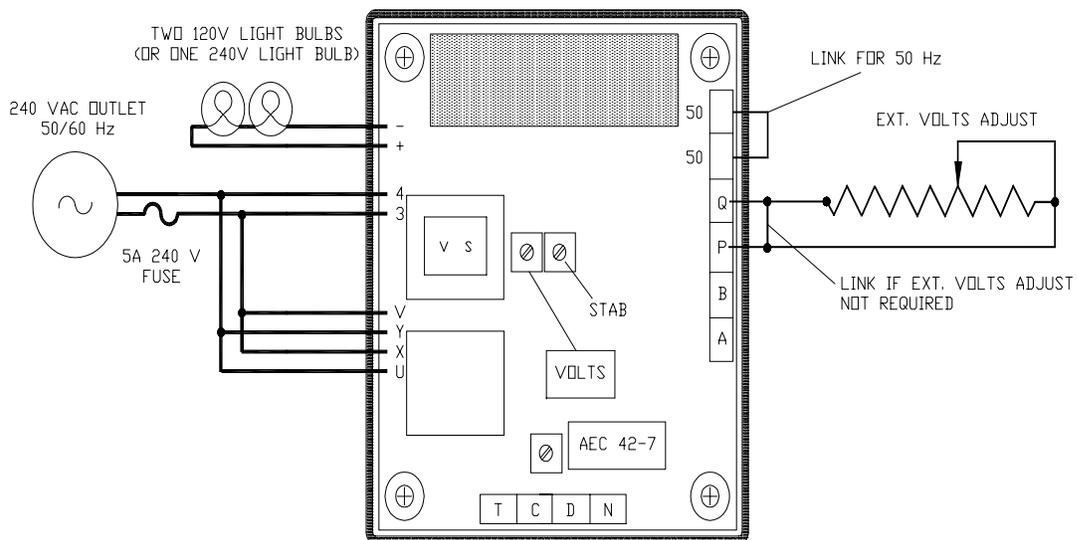

Figure 6. Test Setup Diagram
- Connect the test setup as shown in Figure 6. Do NOT apply power. Ensure the light bulbs are rated 120 volts and less than 100 watts. Alternatively a single 240 V bulb may be used.